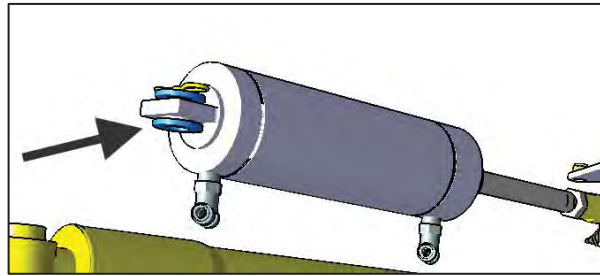

Figure 7
- 5) Re-assemble cylinder frame side anchor adding a washer under the anchor. (Arrow, Fig. 7)